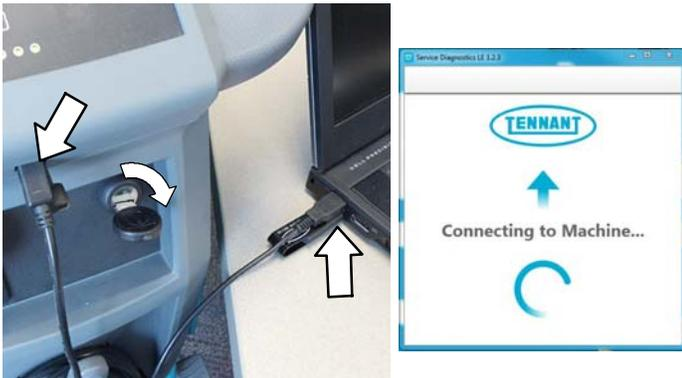

Fig. 7
4. Connect the USB cable, supplied with kit, to computer and to the USB port on machine as shown. Turn the key switch to the on position (Figure 7).
5. The application software will then connect to the machine (Figure 7). If the application remains on the “Connecting to Machine...” screen for an extended period, cycle key or reconnect USB cord. If it still fails to connect, restart software or computer.